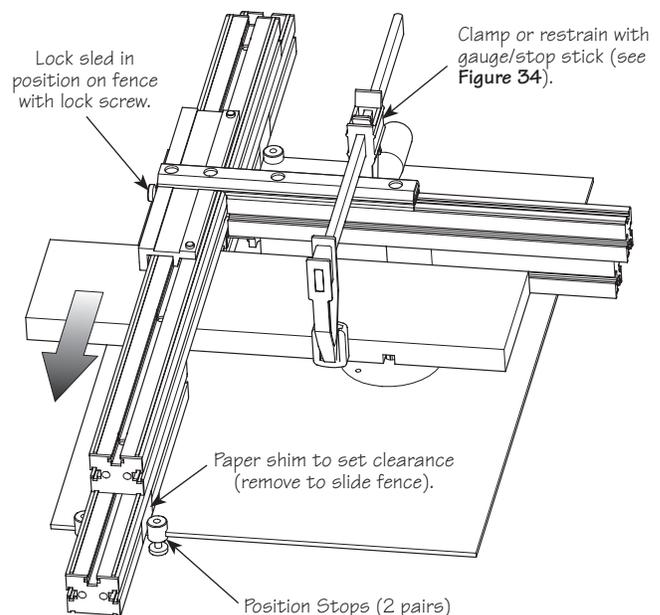

Figure 10: Cross routing pieces wider than 4" (100mm).
Workpieces up to 8" (200mm) wide can be cross routed by locking the sled to the fence, and using a pair of position stops (05J21.07) at either end as guides, sliding the entire fence and sled together as a unit (see **Figure 10**).
- b) Once the fence is loosely positioned on the table so the bit will cut into the wood backing block, two pairs of position stops are attached to the edge of the table, one at each end of the fence, and one on either side, as shown in **Figure 10**.
With wider workpieces, it may be necessary to use a metal bar clamp (as shown in **Figure 10**). Use a non-marring pad on the clamp faces to protect both the strut extrusion and the workpiece. Also, ensure that the clamp is not in the path of the cutter in any way.
With the infeed side of the sled slightly forward of the opening in the fence (see **Figure 10**), lock the sled to the fence. Check that the sled is free to run back and forth as the fence slides between the position stops.